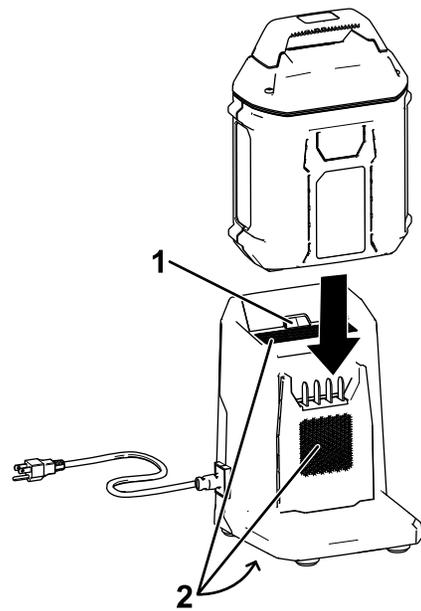

Figure 3
4. Slide the battery pack into the charger until it is fully seated (Figure 3).